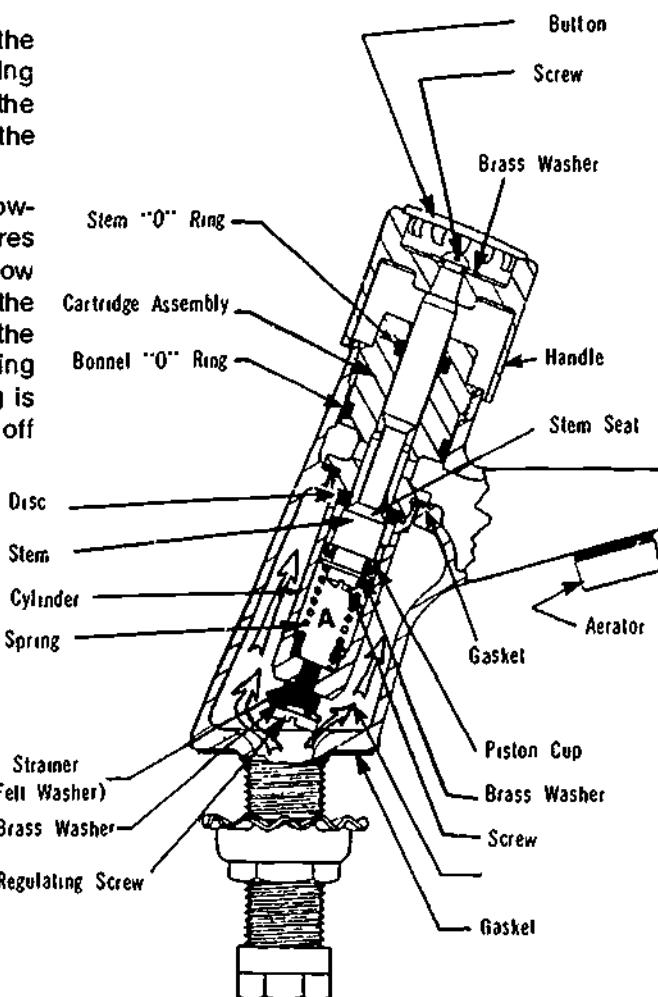

Figure 23-13. Cross-Sectional View of Emco Time Delay Faucet
22. When the handle is pushed, the stem forces the seat assembly down (see Figure 23-13), allowing water to pass through the seat opening and out the spout. Water in chamber A is expelled up, past the piston cup.